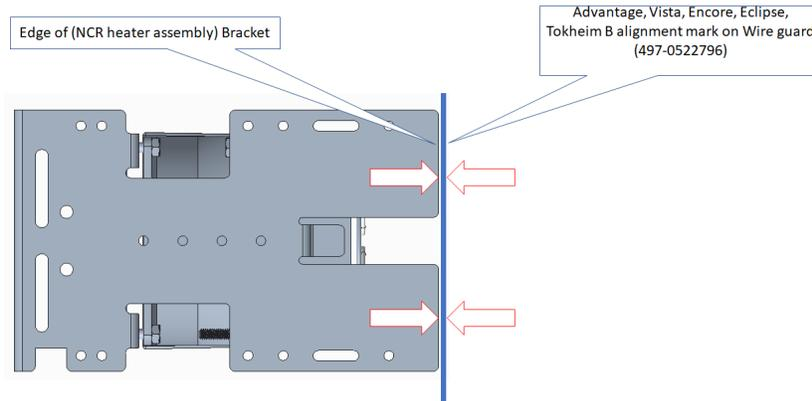
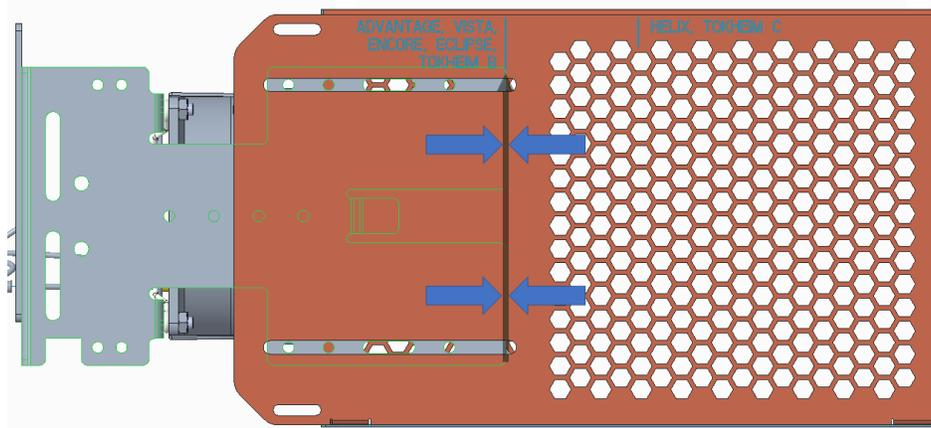

Figure 3
Figure 4
5) Slide the wire guard (497-0522796) around the NCR heater assembly so that the edge of the bracket aligns with the Advantage, Vista, Encore, Eclipse, Tokheim B alignment mark as shown in Figure 3 and Figure 4.